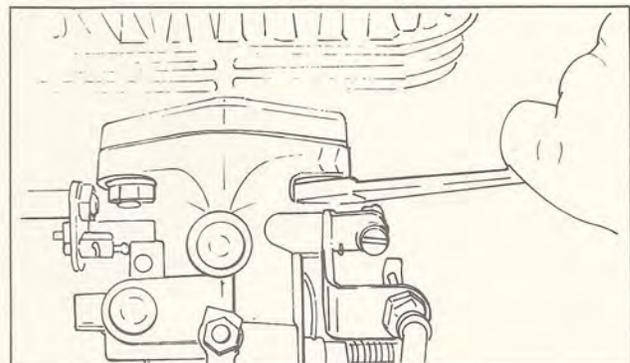

Fig. 2-25
- (1) Remove the throttle wire, choke wire, pulse pipe, fuel pipe and oil pump control rod, and remove the four nuts using the 13-mm. open-end wrench. Then remove the carburetor from the cylinder. Be careful not to lose the spacer between the carburetor flange and the stud bolt. (Fig. 2-25)